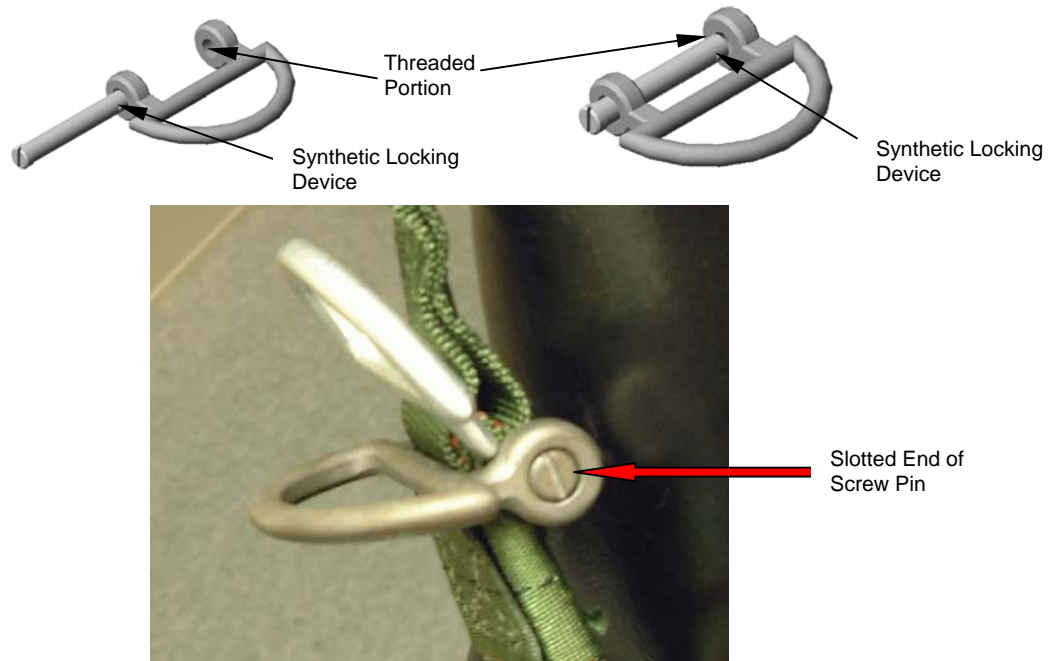

FIGURE 3
(5) With the slotted end of the bolt to the outside of the parachute harness, feed the screw pin from the outside to the inside through the un-threaded hole to the threaded hole and completely screw in the screw pin. It is recommended that a screwdriver blade the width of the screw pin be used for better leverage and proper seating. Remember, the screw pin contains a synthetic locking device and you must insure you completely seat the screw pin (Figure 3).